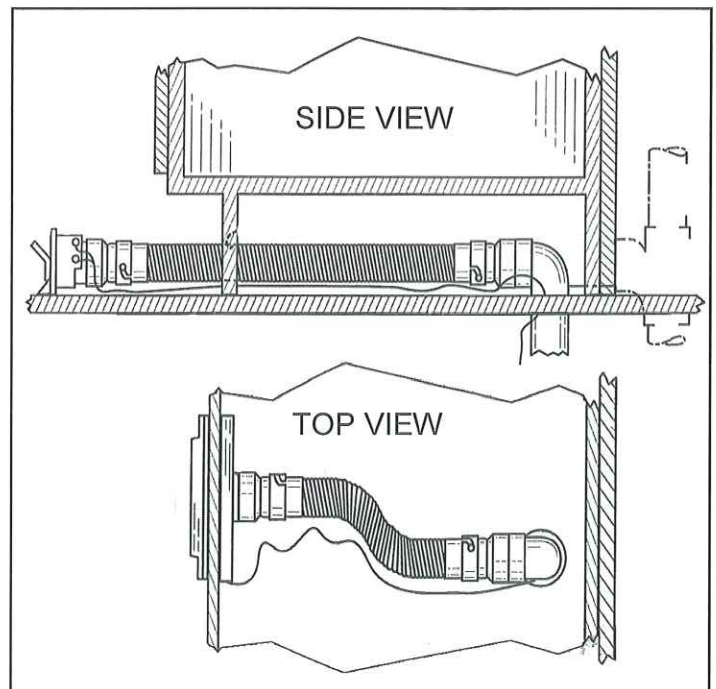

FIGURE 2
4. Although the expandable hose stretches to 24", make sure there is enough give that you can pull the flexible hose and low-voltage central vacuum wires out from the wall (Figure 2).
5. Connect and glue the Flex Connect quick-release fitting to the back of the automatic dustpan with PVC cement, connect the low-voltage wires, then slide the automatic dustpans into the cabinet opening and secure (Figure 2).